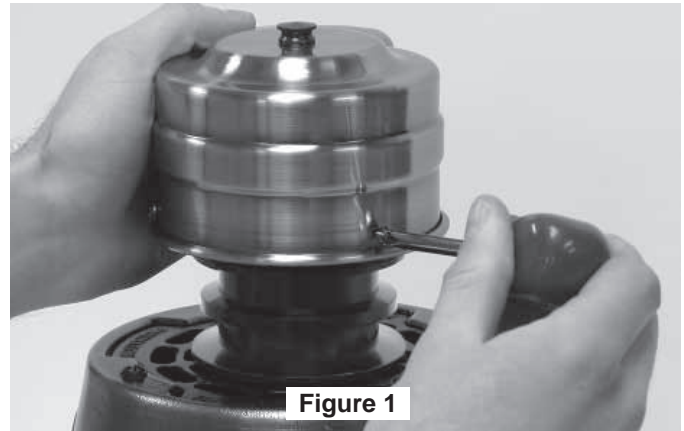

Figure 1
Remove the switch housing from the motor by unscrewing the three screws and unplugging the connector (Figures 1 & 2).
Slide the assembled Switch Cap Housing over the Switch Cap Base by installing and tightening the three screws (Figure 1).
*It is recommended that each fan and the motor have  $\frac{3}{4}$ " plywood backing secured to a structural member for adequate support (Figure 1). A 120 VAC electrical feed, centered under the motor unit and wired to a 3 speed control (supplied) is required. The motor unit will not operate more than 4 pulley/blade assemblies.*